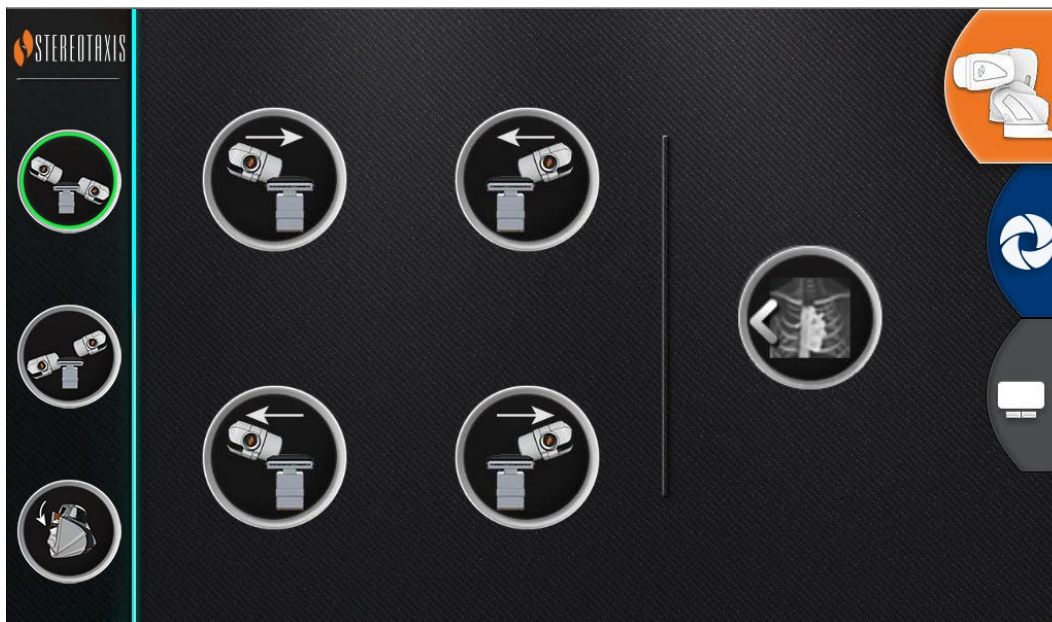

Figure 9. *GenesisX RMN* icon selected (*right*), more UTSC buttons display
3. Power up the system. On the remote power panel (located in Control Room), hold the toggle switch in the **ON** ("I") position for approximately 1 second until the green power lamp illuminates (Figure 9).